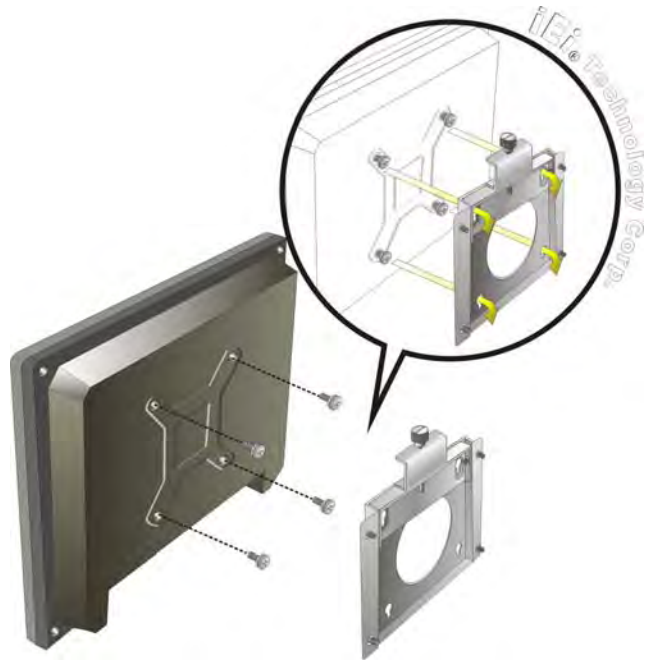

Figure 4-10: Chassis Support Screws
- Step 6: Insert the four monitor mounting screws provided in the wall mounting kit into the four screw holes on the rear panel of the IOVU-751R and tighten until the screw shank is secured against the rear panel (**Figure 4-10**).
- Step 8: Carefully insert the screws through the holes and gently pull the monitor downwards until the monitor rests securely in the slotted holes (**Figure 4-10**). Ensure that all four of the mounting screws fit snugly into their respective slotted holes.